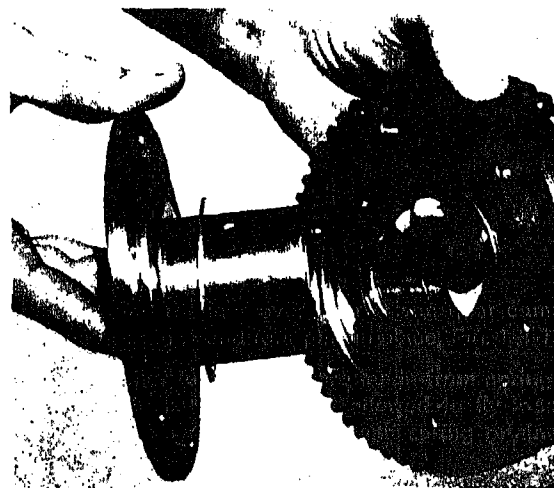

Fig. 1-3-2. Assembling supercharger idler gear
8. Assemble thrust washer to idler gear hub, Fig. 1-3-2.